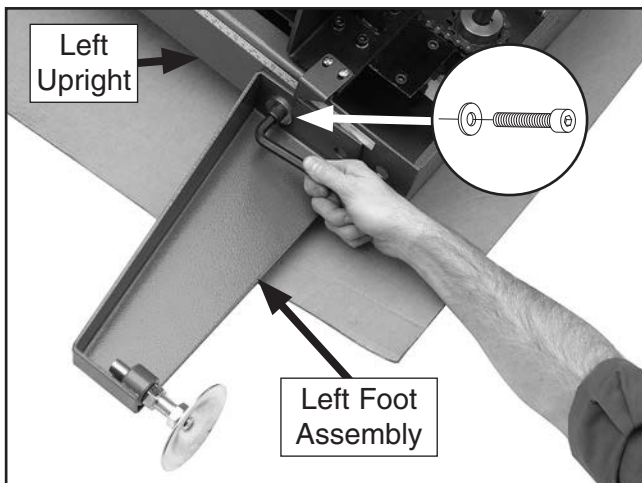

Figure 10. Foot assembly attachment.
1. Attach the left foot assembly to the left upright with (1) $\frac{3}{8}$ "-16 x $\frac{3}{4}$ " cap screw and (1) $\frac{3}{8}$ " flat washer, as shown in **Figure 10**. Do not yet fully tighten the cap screw.